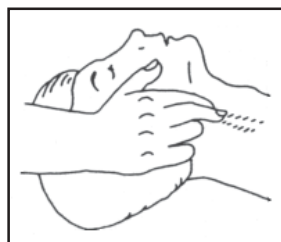
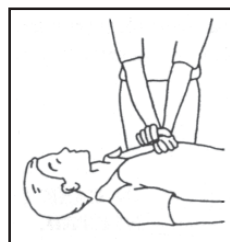
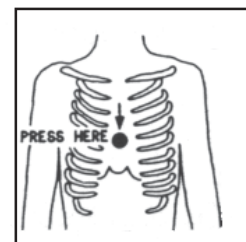

Figura 3
Figura 4
Figure 5
- Check carotid pulse (**Figura 3**); if pulse is absent, begin artificial circulation (**Figura 4**) depressing sternum 1 1/2" TO 2" (**Figure 5**).